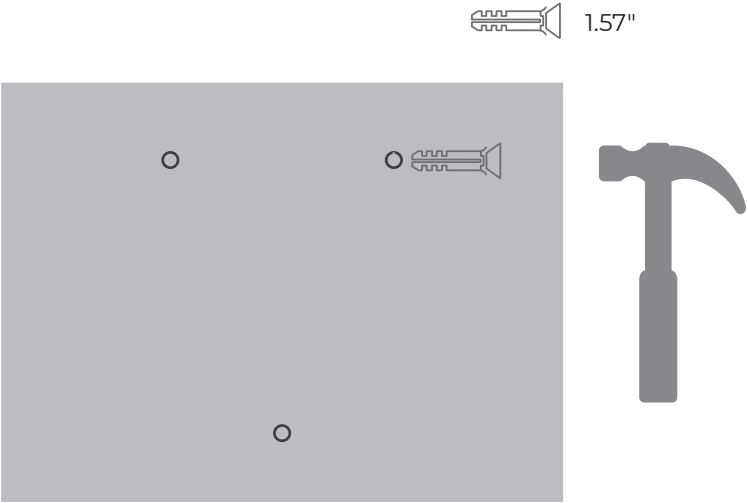

Fig. 5-6
4. Hammer the plastic expansion anchors into the holes. (See Fig. 5-6)